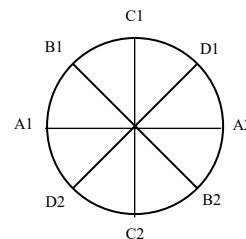

Figure 1: Measuring points
- Repeat this procedure so that you can control the entire slew ring as in **Figure 1**.